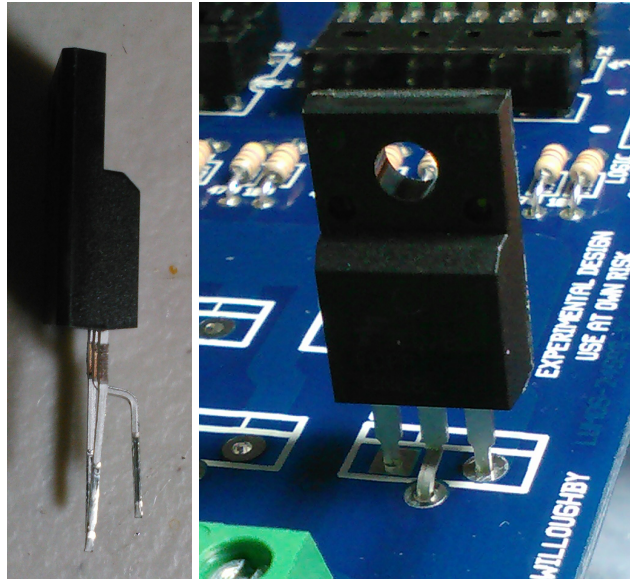

Figure 5.3: Bending the Pins of the MOSFETs
29. Install (2) 2-position terminal blocks at J6 and J7.
30. Using ESD protection, lay out (4) MOSFETs on your workbench.
31. Prepare each MOSFET by bending the middle lead 90° up toward the front of the transistor body, then move your pliers down the lead another 0.1" and bend it 90° back again, parallel to the other pins again. It should now look like the photo in Figure 5.3 and should fit easily into the holes at Q0 on the PCB.